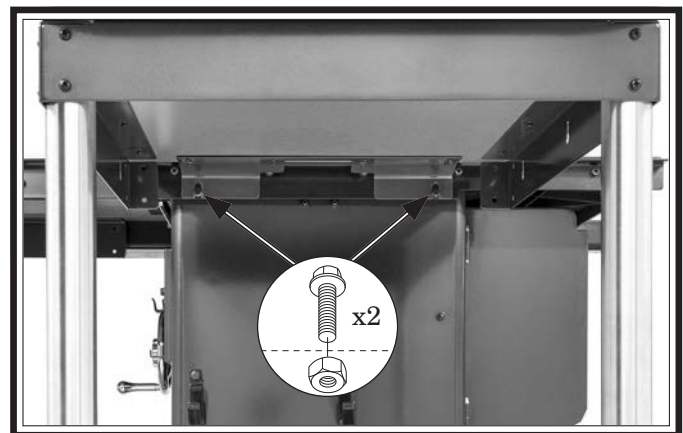

Figure 34. Outfeed table fastened to rear rail.
6. Place outfeed table assembly upright with feet on floor, align slots in outfeed table bracket with rear rail mounting holes, then fasten table to rail with (2) M8-1.25 flange bolts and (2) M8-1.25 hex nuts, as shown in **Figure 34**.